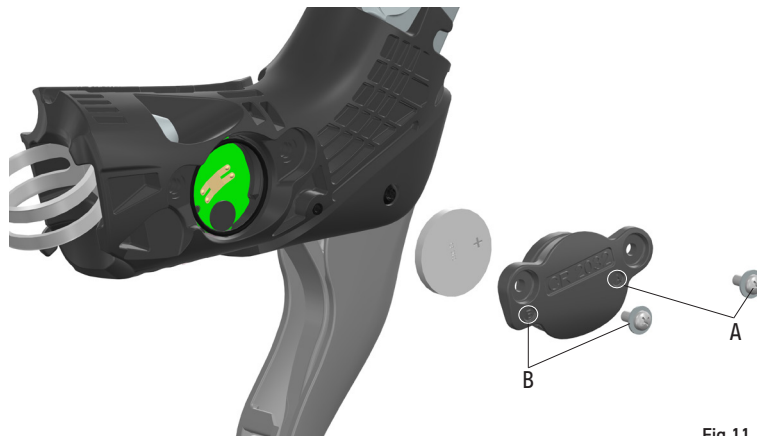

Fig.11
- Use a Phillips screwdriver to unscrew and remove the screw and washer in position A (Fig. 11), then proceed to do the same for the screw and washer in position B (Fig. 11).
- To remove the battery cover, use the protrusion on the cover near screw B (Fig. 11).
- Remove the battery and insert a CR2032 battery, making sure the side with the "+" symbol is facing the cover (Fig.11).
- Put the cover back on and tighten the two screws using a Phillips screwdriver (Fig.11).